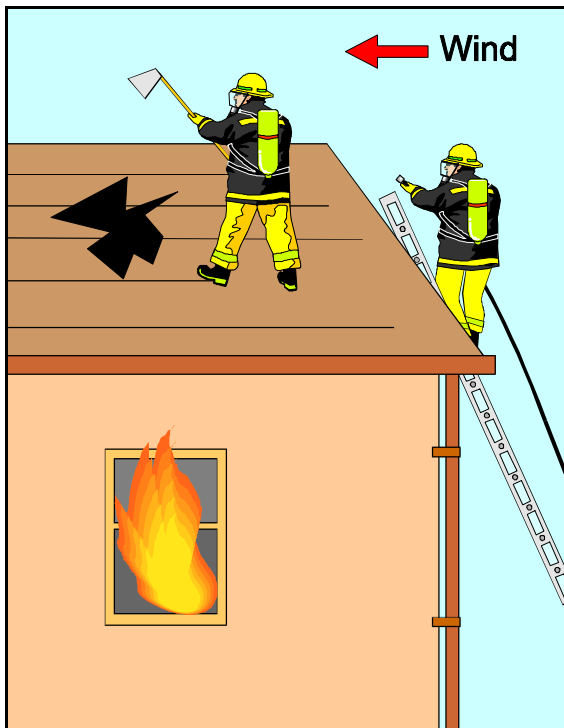

Fig 14.9 Always Work Upwind of the Vent Hole
- cutting from an upwind position; (See Fig 14.9)